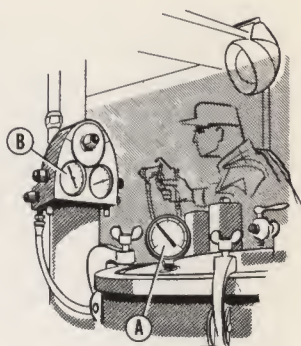

Fig. 101
- (f) (Fig. 101) Adjust the air pressure on the tank to approximately 15 pounds (A).
- (g) Adjust the atomization air pressure by starting at 65 pounds (B), raising and lowering it until the desired atomization is obtained.